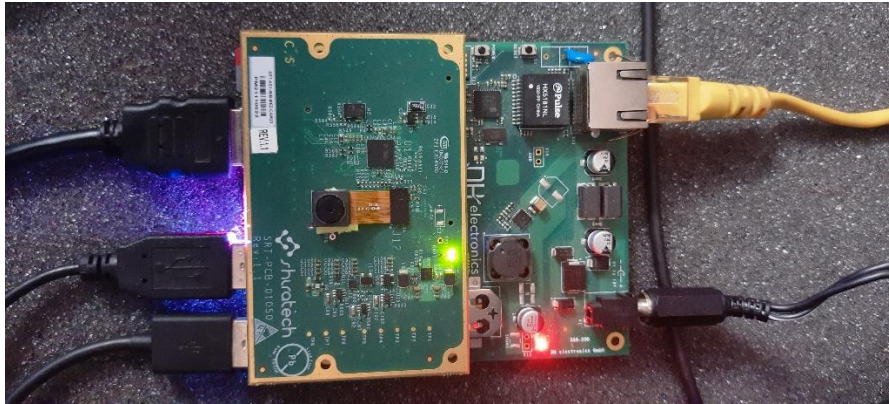

Figure 3 :Avenger96 AP1302 setup with AR0430 camera sensor
- SRT-Vision96-AR0430 mezzanine (AP-vision-AR0430) – Refer Figure 3